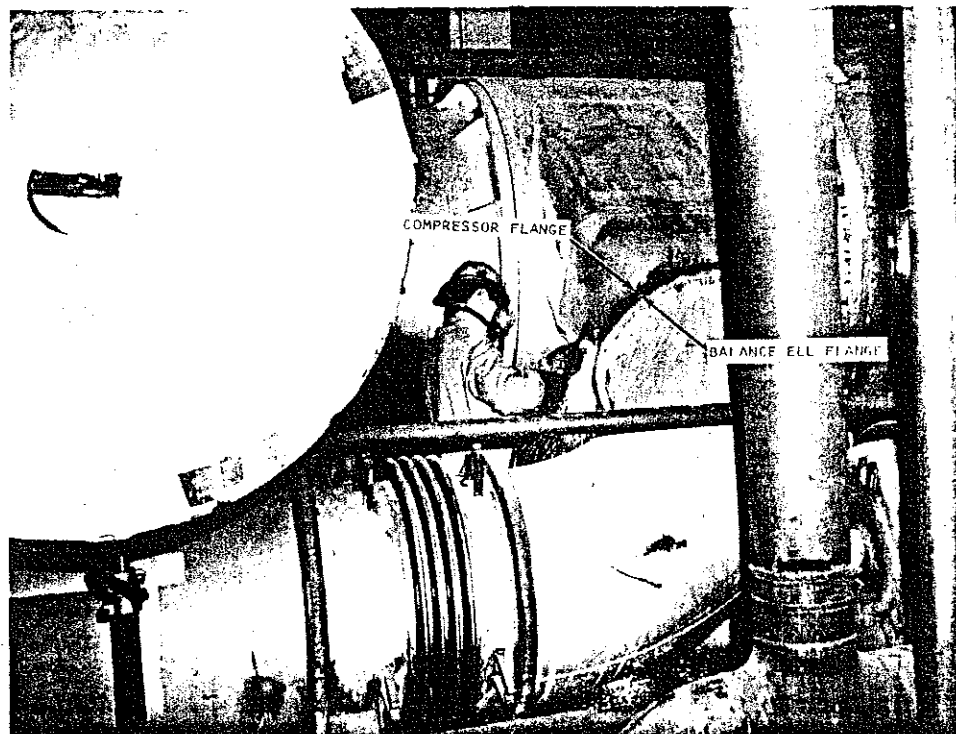

FIG. 7. SCARFING OPERATION
- k. Scarf compressor flanges with cutting torch to consume as little metal as necessary, cut three compressor flanges (A suction, B suction, discharge) in a neat and precise manner and completely sever the lines (see Figure 7).